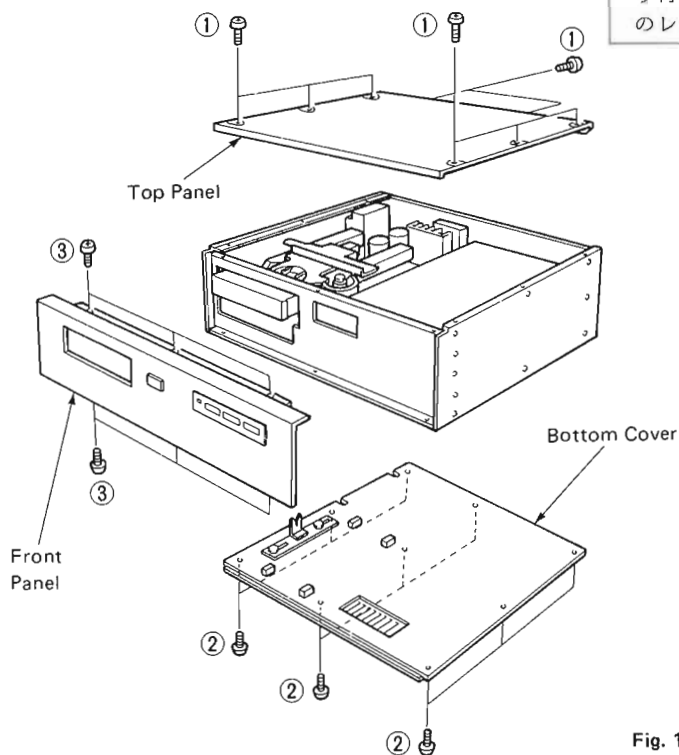

Fig. 1
- ① POWER TRANSFORMER
- ② POWER SUPPLY UNIT
- ③ PS CIRCUIT BOARD (1)
- ④ PS CIRCUIT BOARD (3)
- ⑤ WM-3 UNIT
- ⑥ SERVO CIRCUIT BOARD (1)
Remove 8 screws (①) in Fig. 1.
Remove 9 screws (②) in Fig. 1.
Remove 6 screws (③) in Fig. 1.
①のネジ8本をはずす。(Fig. 1)
②のネジ9本をはずす。(Fig. 1)
③のネジ6本をはずす。(Fig. 1)